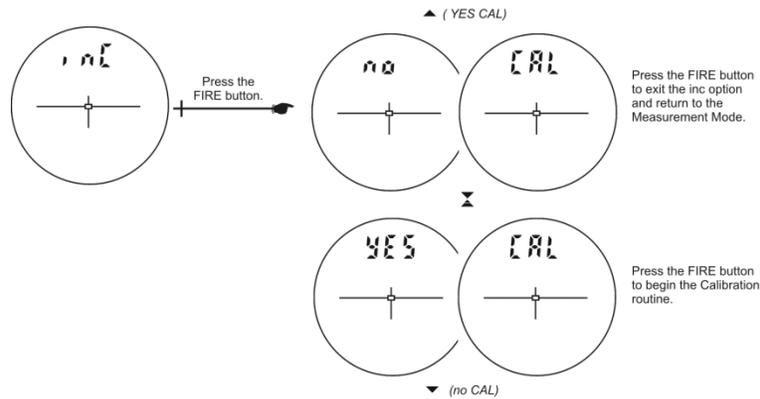

Figure 6. The TruPulse viewfinder when initiating the tilt-sensor calibration routine.
3. Press ▼ until **inC** is displayed in the viewfinder, then press “Power/Fire” (**Figure 6**).